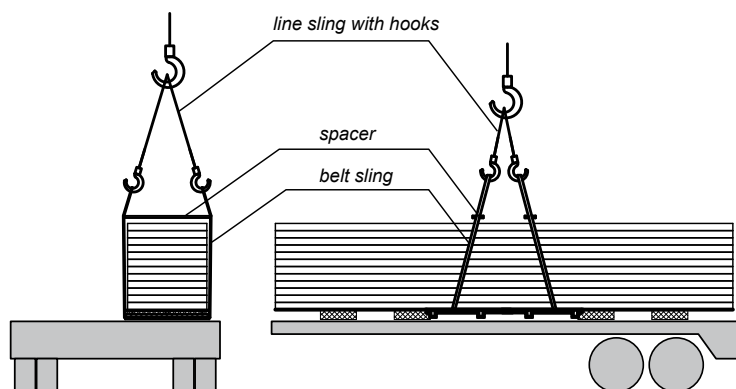

Fig. 10
- When lifting the packages with cargo straps, attached to the load-carrying wooden pallets, use 1.2 m long and 30 mm thick wooden spacer – fig. 10, to keep the straps spacing wider than the package, to prevent the top panels from damaging. Attaching the straps to polystyrene pallets is prohibited.